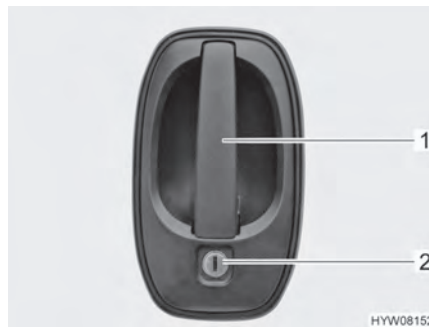

Fig. 28 Door lock (driver's door/conversion door, outside)
- Insert the key into locking cylinder (Fig. 28,2) and turn until the door lock is unlatched.
- Pull on the door handle (Fig. 28,1). The door is open.
- Insert the key into locking cylinder (Fig. 28,2) and turn until the door lock is engaged.